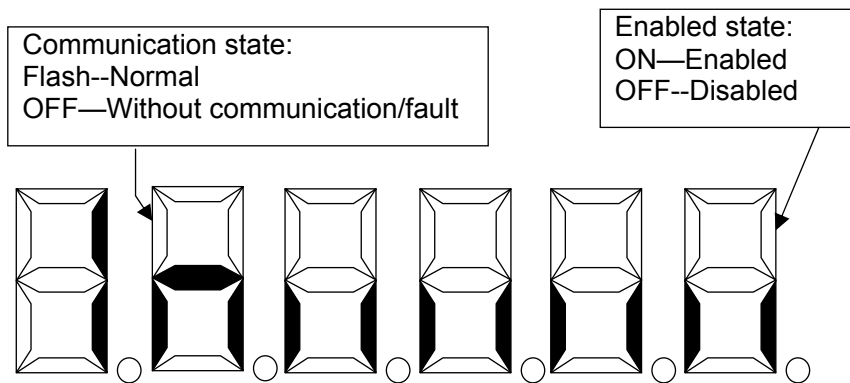

Fig. 4-4 Enabling and Ethernet state display (ON: stroke point power-on, OFF: stroke point power-off)
**Note 10:** The state display of the drive unit enabling and Ethernet communication. Refer to the Fig.4-4 for the display content and significance.